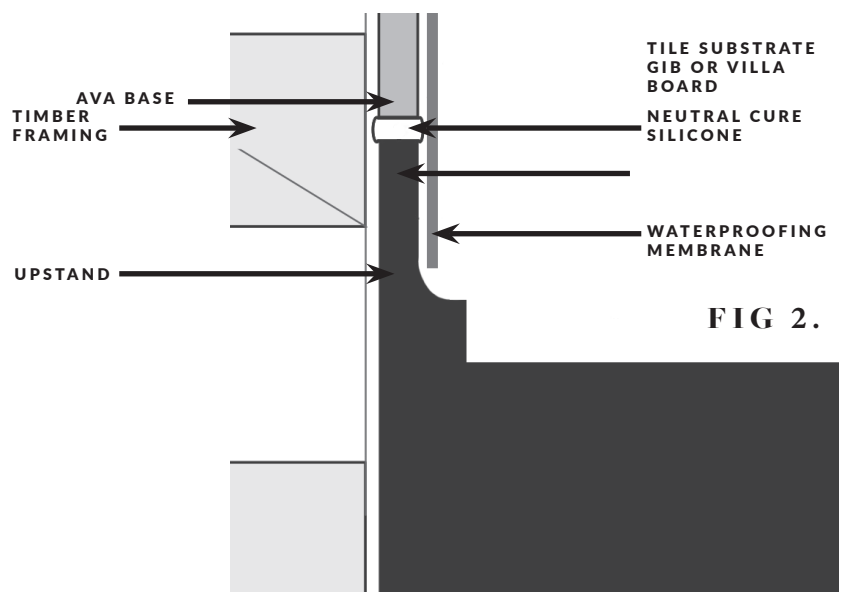

FIG 2.
- Ensure the inside face of the upstand is flush with the Gib (FIG 2). The AVA shower bases are designed with an upstand that requires the tray to be fitted hard up against the timber framing and for the GIB board to sit flush with the top of the upstand. This allows the waterproofing to cover that join between the upstand and Gib, creating a waterproof seal.